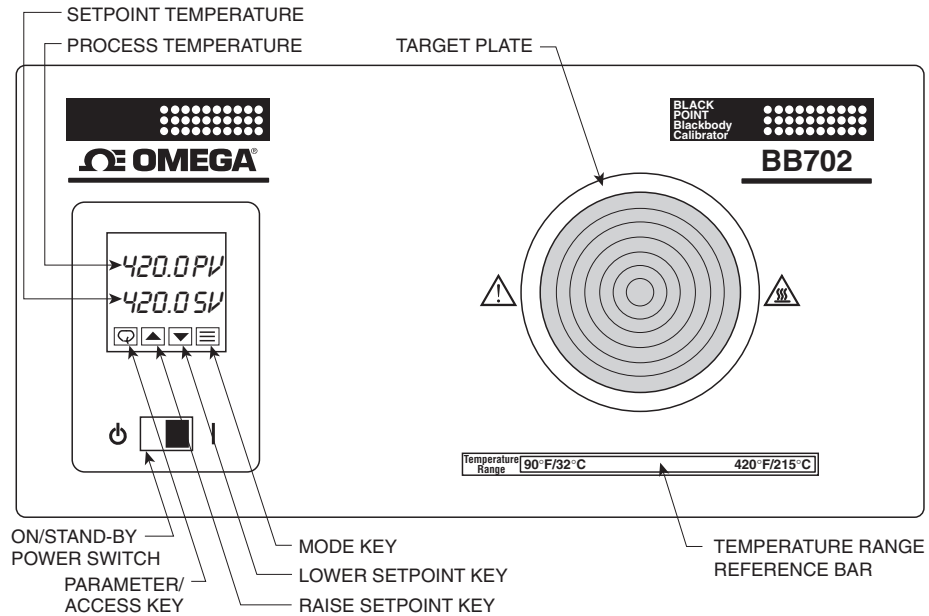

Figure 3. Front Panel
The layout of the front panel is shown in Figure 3. The BB702 incorporates a PID digital setpoint controller. The upper display indicates the blackbody target plate temperature known as (PV) Process Variable, while the lower display indicates the programmed setpoint known as (SV) Setpoint Variable. Making changes to the setpoint, units of measure and communication settings are made via the "▲" and "▼" keys. Holding a key in, continuously, will cause the setpoint temperature to advance more quickly to a desired value. Three scanning speeds are provided: slow, medium and fast. The minimum and maximum setpoints are locked.